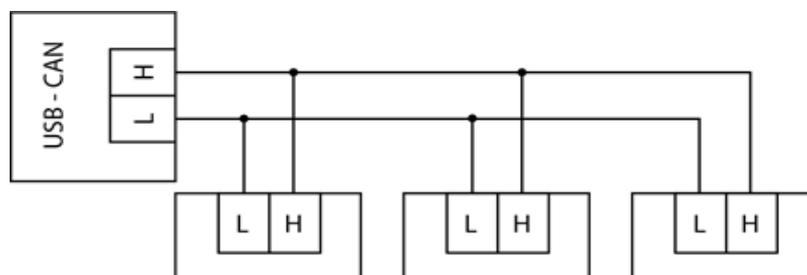
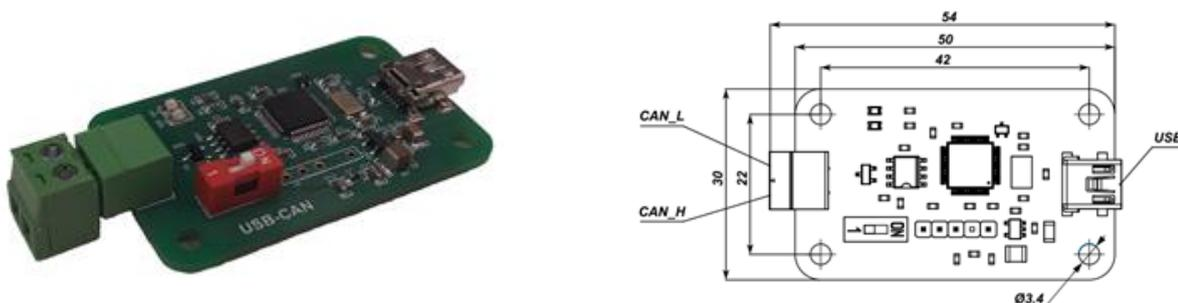

Figure 14: CAN interface connection scheme
Figure 15: USB-CAN hub
2. Connect up to 200 drivers into the CAN network (fig. 14) by using the CAN hub (fig. 15).